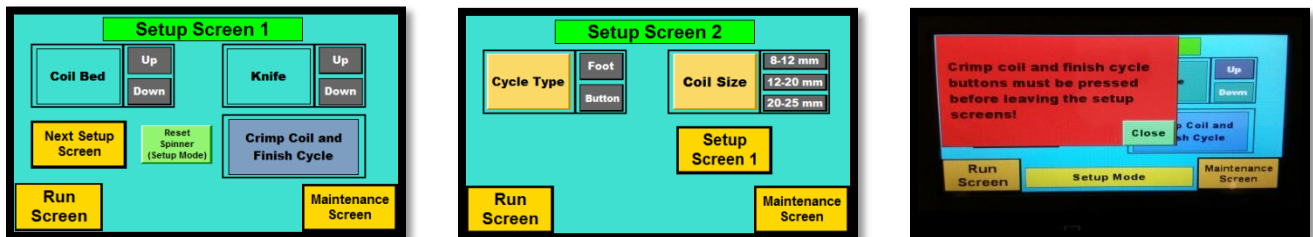

Figure 7
- **Coil Bed Button:** This is the first button to be pressed during initial setup. Pressing it will lower the bed as well as clamp the book in position. Figure 7
- **Knife Button:** After the spinner assembly is set and the coil is entering the book, the knives need to be in the up position for the mechanical adjustments. Press this button to bring the knives up. Figure 7
- **Crimp Coil and Finish Cycle:** After the knives are adjusted, press this button to cut and crimp the coil. It also completes the cycle of the machine and will drop the book down from the clamp. Figure 7
- **Cycle Type:** Change between foot pedal operation or push button operation to start cycle. Figure 7
- **Coil Size:** Toggle this button for various size coils. This is actually a time delay to allow the coil to travel further for a larger diameter or stop immediately for a small diameter coil. Even though the sizes are listed, you can use this button to control how far a coil will travel in the book before stopping. This is used in conjunction with the spinner speed control. Figure 7
- **Maintenance Screen:** There are various default settings in this screen which can be changed. This screen cannot be accessed without a password. Figure 7
- **Pop up Warning:** If you are in the middle of a setup and try to leave the setup screen, a message will appear to let you know you have to complete the setup before returning to the run screen. Figure 7